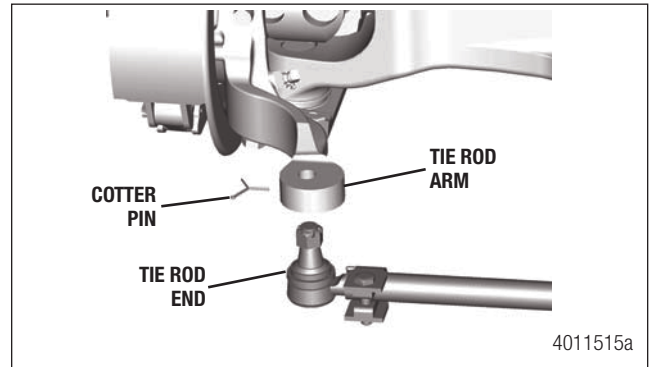

Figure 5.1
2. Disconnect the cross tube assembly from the tie rod arms. Use a tie rod end puller, if available, to separate the tie rod end from the tie rod arm. Push the stud for the tie rod end completely through the tie rod arm. To assist this process, partially reinstall the nut with the castle side down until it is flush with the top of the threaded shaft, and then strike the nut/shaft with the mallet to loosen the stud. Use a soft mallet, if necessary, to drive the stud through the tie rod arm. Figure 5.1.